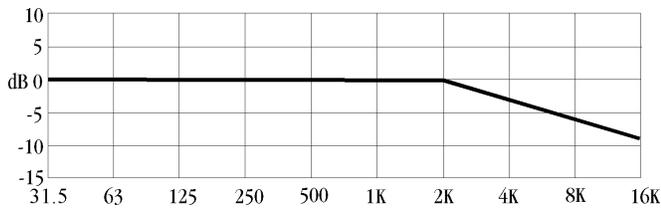
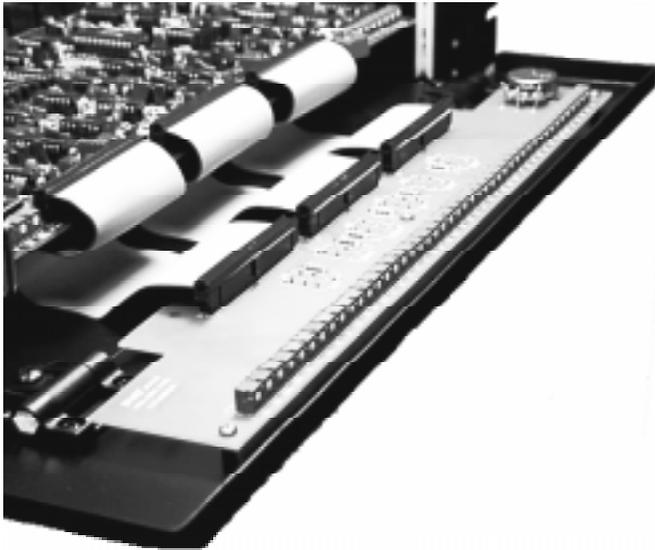

Figure 10. ISO Cinema Playback Standard states that octave bands should be tuned for flat response to 2 kHz, with a 3 dB/octave rolloff above 2
Figure 11. MOD VI front panel with equalizer potentiometers along the front.
2. Perform the channel equalization (see Figure 10) using the trimpots located inside the front panel (figure 11).